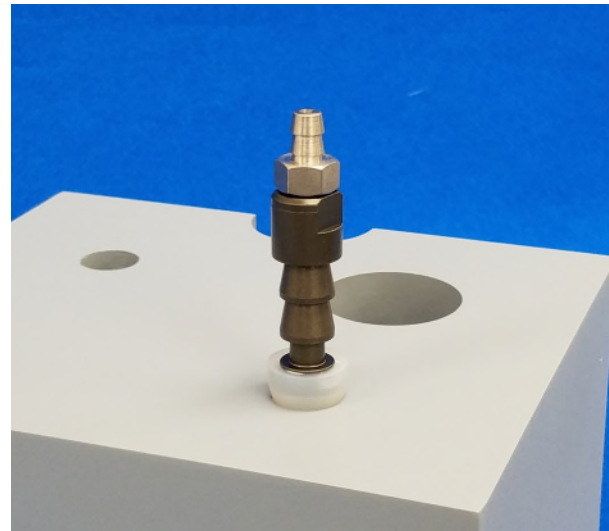

Figure 4. Mini Vapor Pin® Installation (Step 1)
- 6) Place the lower end of the assembled Mini Vapor Pin® into the drilled hole (Figure 4). Place the small hole located in the handle of the installation/extraction tool over the barb fitting and tap the Mini Vapor Pin® into place using a dead blow hammer (Figure 5) until the top of the Mini Vapor Pin® is flush with the slab (Figure 6).